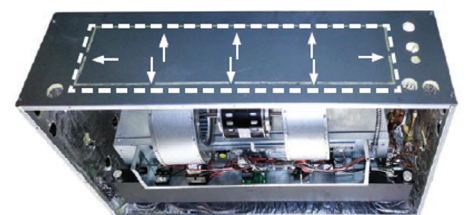

FIGURE 6.8
6.3.1. To connect return air ducting to the air handler, remove the knockout and cut the insulation on the rear side of the enclosure to install the ducting (Fig 6.8).